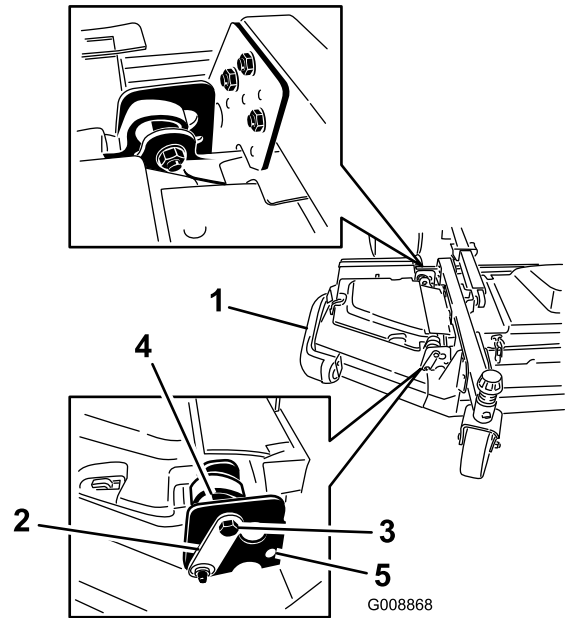

Figure 4
4. Install the front and rear stop bolts through the upper-mounting holes and eccentrics (Figure 4).